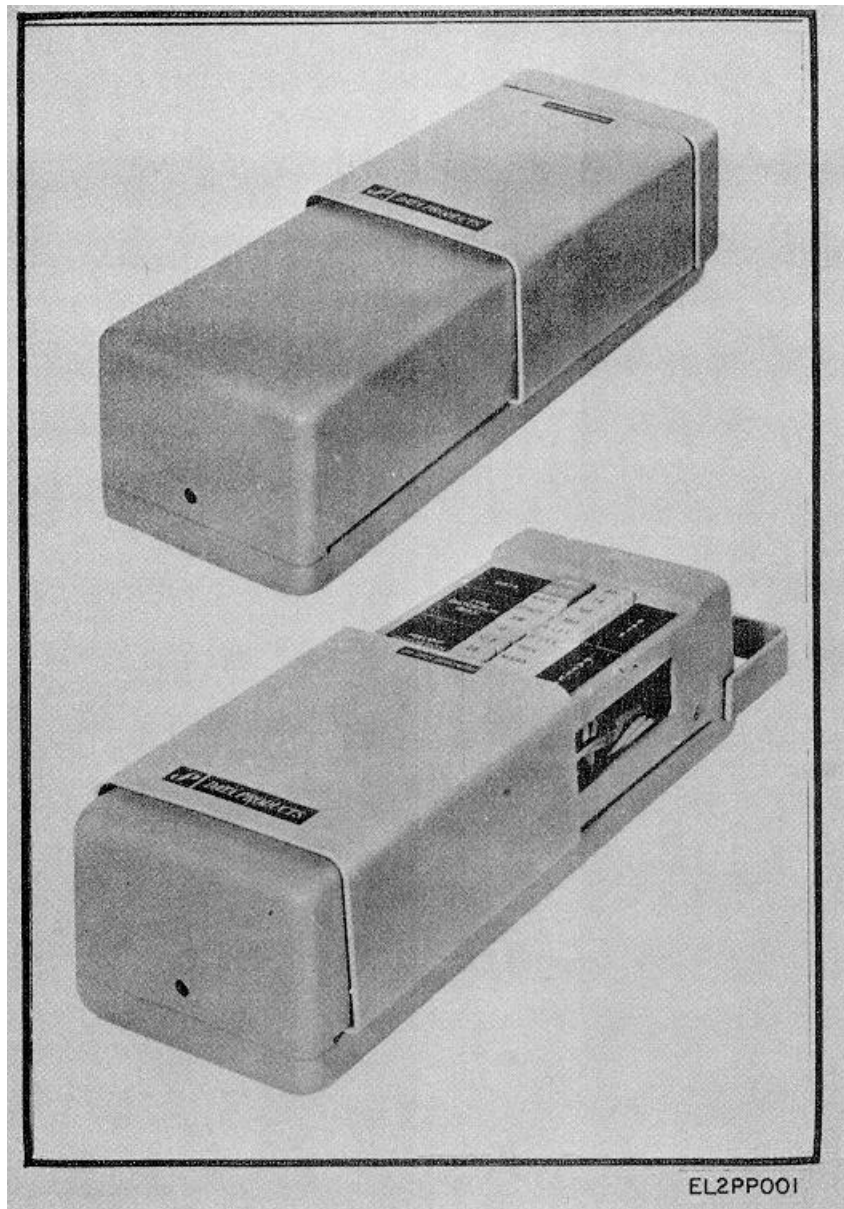

Figure 1-1. Pattern Generator Model PG-404.
The Pattern Generator PG-404 is a compact, portable, ac/battery-operated test set that generates various telegraph test signal patterns having predetermined and controllable characteristics. The Pattern Generator is designed for use with associated data measuring instruments (such as Data Products' Data Analyzer DA-404) to test and evaluate performance of teletype-writer and data communication systems or equipment. The unit is illustrated (fig. 1-1) with its cover open and closed.
(4) Power Supply. The dc operating voltages for the Pattern Generator are supplied by an inverter circuit which receives power from an internal, rechargeable 5-volt battery (batter operation), or from a fullwave power supply (ac operation). Recharging current is supplied to the battery when the ac line cord is connected to a 115-volt or 230-volt (strap selectable) 60Hz power source. The battery condition may be checked by means of a front-panel indicator lamp and switch.
b. The Pattern Generator is contained in a 2-piece, molded plastic carrying case provided with a fold-away handle (fig. 1-1). All operating controls and indicators, located on the top panel, are protected by a sliding aluminum cover; when open, the sliding cover permits access to the ac line cord storage compartment in the Side of the unit. Output signal connections are made at jacks on the unit's front pan; ac power and neutral loop fuses are recessed in the bottom of the unit. All Pattern Generator electronics are solid-state (including integrated circuits) and, except for the power transformer and batteries, are constructed on two printed-circuit (PC) cards (Assembly A and A2). For access to internal components for maintenance and repair, required, the upper portion of the carrying case may easily be removed.